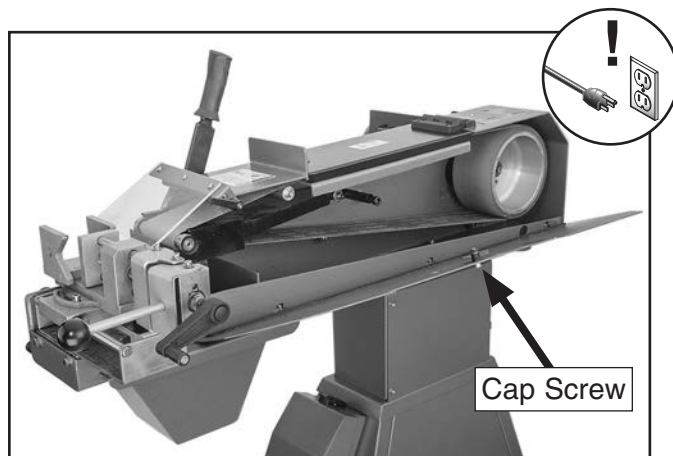

Figure 22. Belt cover opened.
3. Loosen cap screw that secures belt cover (see **Figure 22**), then open cover and remove abrasive belt from machine.